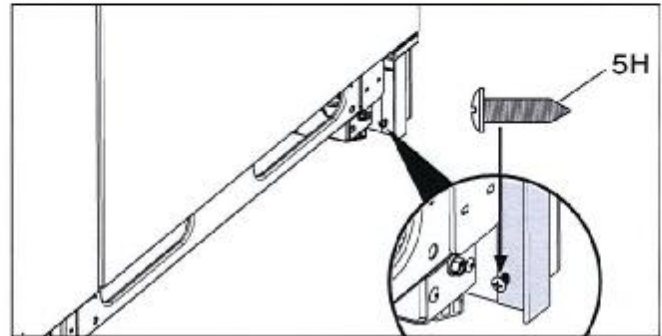

Figure 17.
- Fasten bottom of side trim with screw. (See Figure 17)